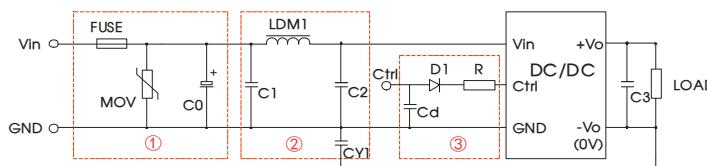

Fig. 3
RE	CISPR32/EN55032 CLASS B (see Fig. 3-② for recommended circuit)
- ① Part ① in Fig. 3 is used for EMS test while part ② is used for EMI filtering; and parts ① and ② may be selected based on needs.
- ②  $V_C$  is the voltage of the Ctrl end relative to the GND of the input grounding;  $V_D$  is the positive-going conduction pressure drop of D1;  $I_C$  is the current flows into the Ctrl end and its value is generally 5-10mA, see Fig. 3-③ for the peripheral circuit of Ctrl end;
- ③ If there is no recommended parameters, no external component is required.